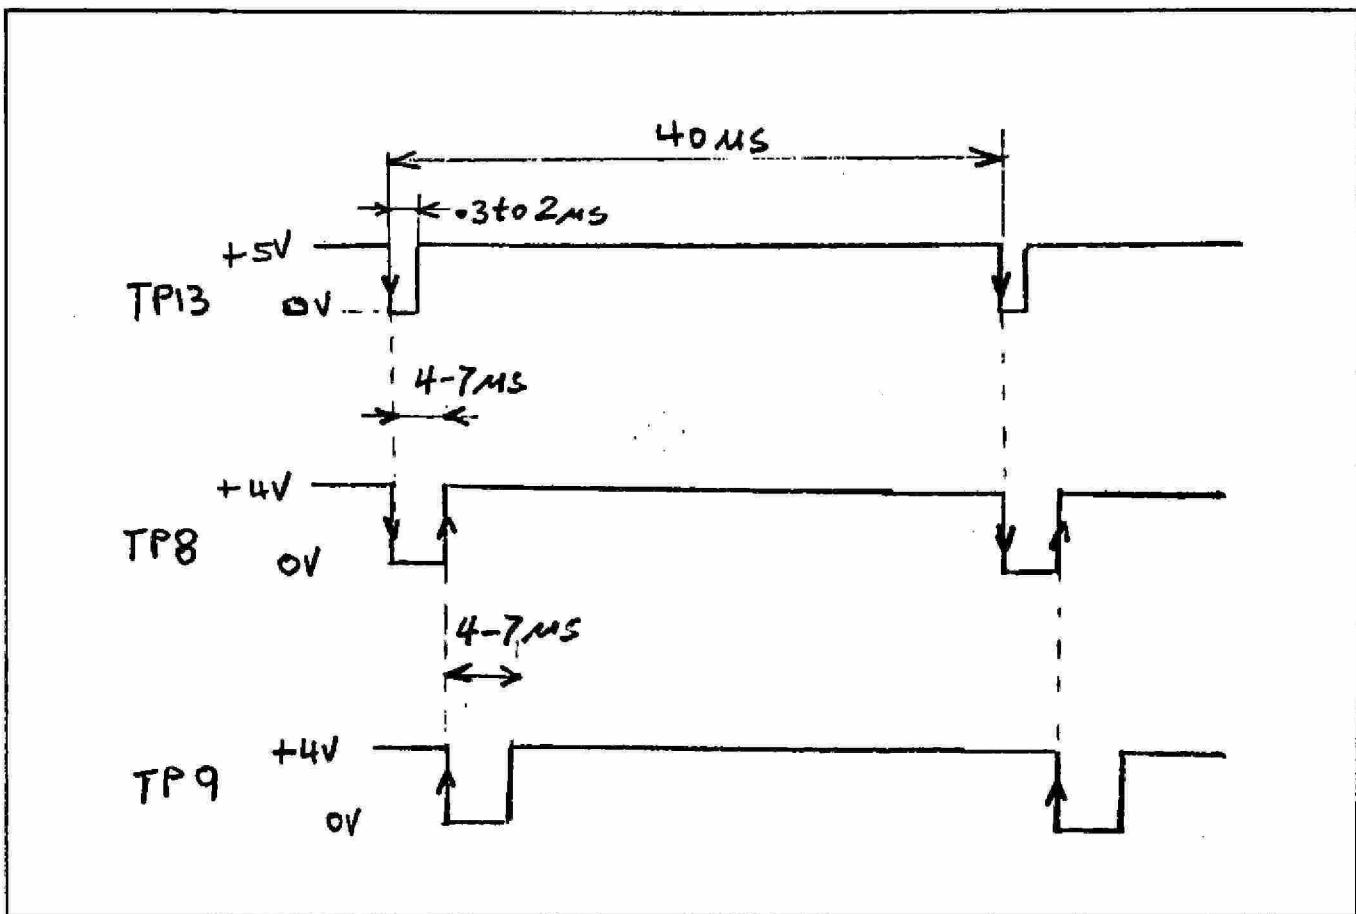

FIGURE 5-21. LOCK PHASE CCW
- 2) Observe the waveforms of TP13, TP8, and TP9 to be shown in Figure 5-21.